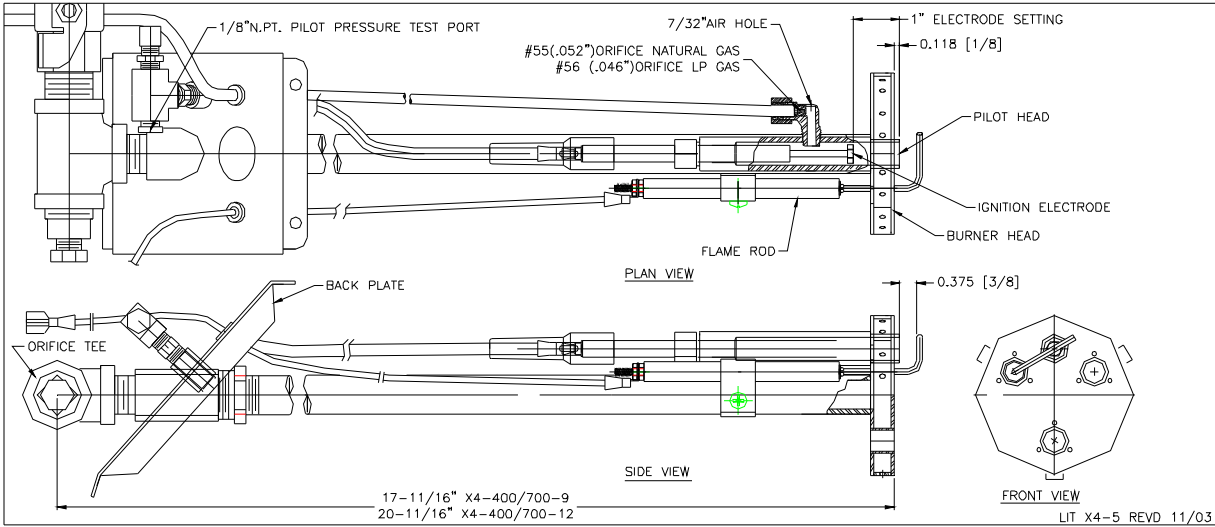

Figure 7: Pilot/Gun Assembly – Flame Rod Type – Natural Gas/LP Gas
- 7.10.1 Before attempting burner start up make certain that you are familiar with the operation of the Primary Safety Control and other components being used on this specific application. Refer to Fig. 7 and 8.